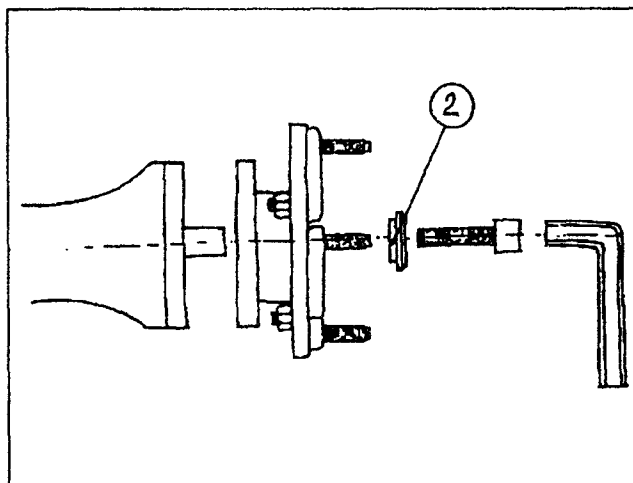

Fig.33
- A. Dismount the threaded shaft and mount the UF345 adapter (Fig.33). Tighten the screw firmly.
In this case mount the hub on the UF345 in place of the ring (#2 Fig.33). The hubs are marked for easier recognition.